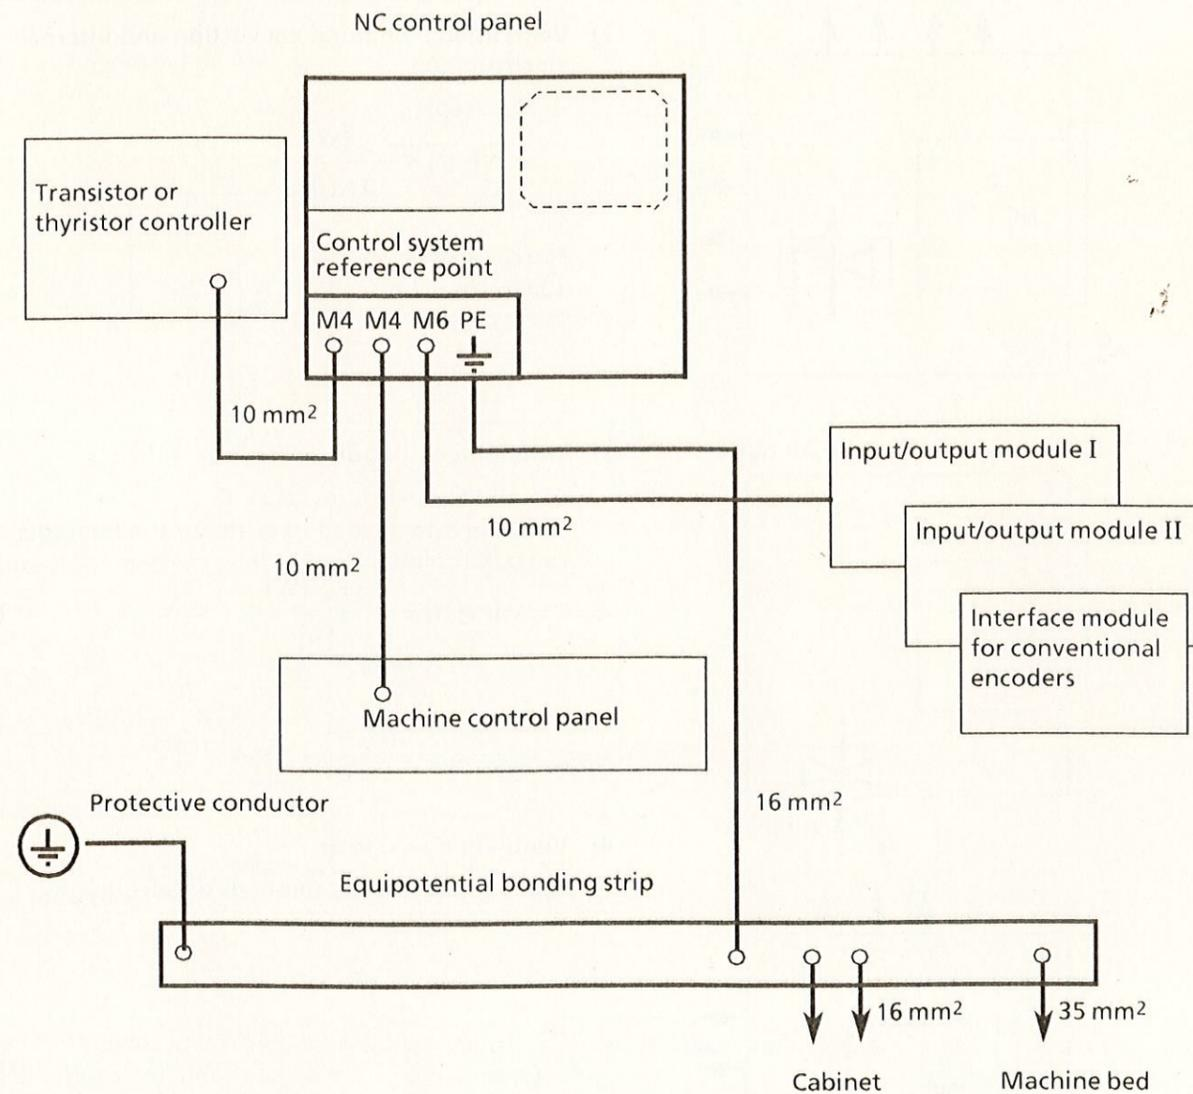

Fig. 2.9
- There is a common method of grounding for NC, PC, drives and machines (Fig. 2.9).
- Protective conductor (PE) connection.